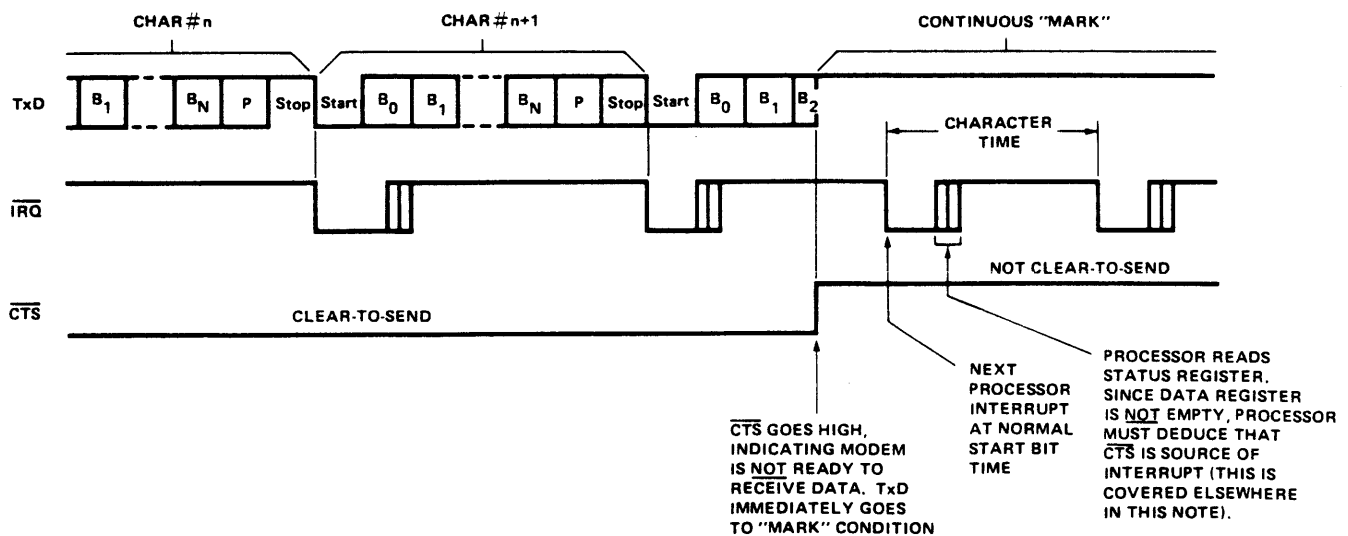

Figure 4-4. EFFECT OF CTS ON TRANSMITTER
4.1.4 Effect of $\overline{\text{CTS}}$ on Transmitter (Figure 4-4)